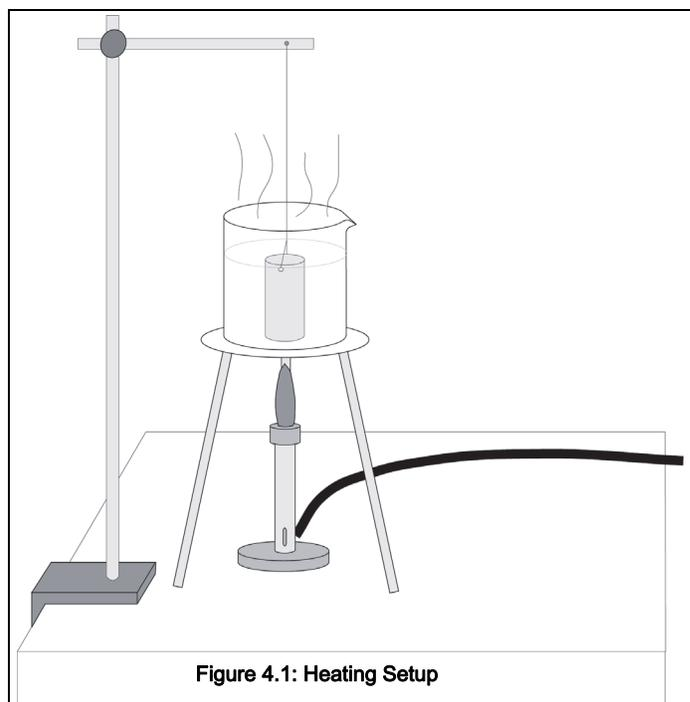

Figure 4.1: Heating Setup
- Heat a beaker of water to boiling. While the water continues to boil, hang the object by a string so that the object is completely submerged in the boiling water but it is not touching the bottom of the beaker. Allow the object to come to equilibrium with the boiling water (wait about 5 minutes). See Figure 4.1.